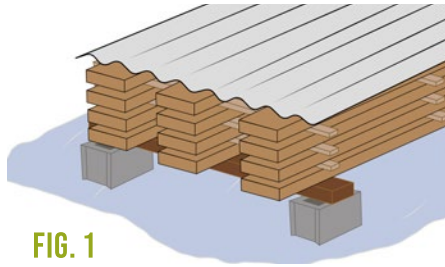

FIG. 1
- Siding must be protected from moisture with good air circulation. A canopy, carport, or an open garage will work. Or a setup like the (Fig. 1). Skipping this step or cutting the acclimation time short can cause gaps, cupping, warping, or buckling and can also cause damage to the boards as they move against the fasteners.